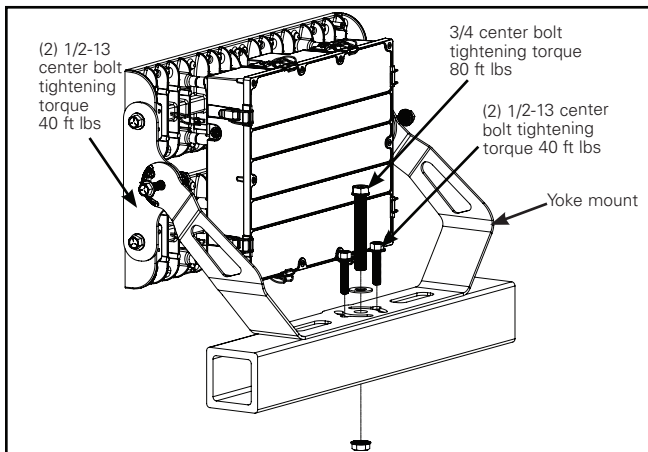
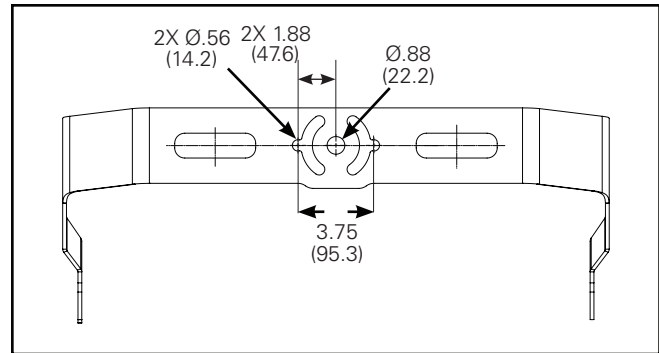

Figure 1.
Figure 2.
Yoke Mounting (Figure 1)
1. Mount luminaire to a surface ensuring maximum contact across the bottom surface of the yoke as shown in Figure 1. Use hole pattern provided in Figure 2 to properly align the yoke with center hole and 2x .56 slots with spacing of 3.75 inches.
Note: Do not invert or mount the yoke in any other orientation besides what is shown in figure 1.
- a. (2) 1/2"-13 flange bolts (long enough to go through the yoke and mounting structure) with (2) 1/2"-13 nuts to be mounted in 3.75 inch center spacing. Torque to 40 ft lbs after horizontally aiming the luminaire.
- b. (1) 3/4 bolt with flat washer thru center bolt (long enough to go through the yoke and mounting structure) and (1) 3/4 nut. Torque to 80 ft-lbs.
2. Loosen but do not remove the (2) center bolts (Fig 1).